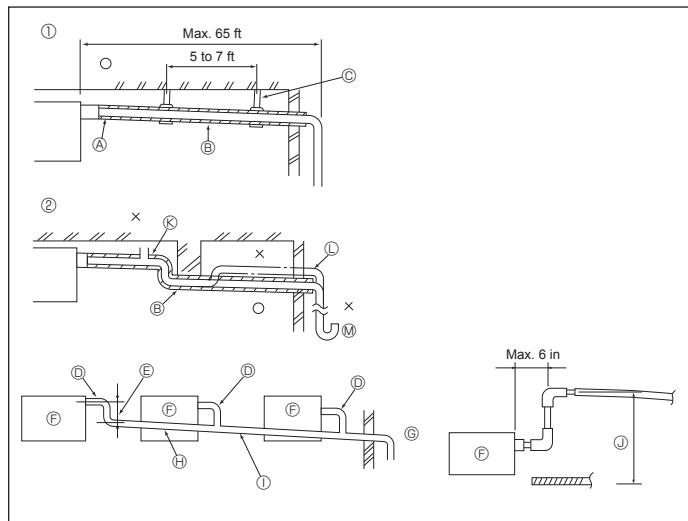

Fig. 6-1
6.1. Drainage piping work (Fig. 6-1)
① Correct piping	⑤ Support metal
② Wrong piping	⑥ Air bleeder
③ Insulation (9 mm (11/32 inch) or more)	⑦ Raised
④ Downward slope (1/100 or more)	⑧ Odor trap